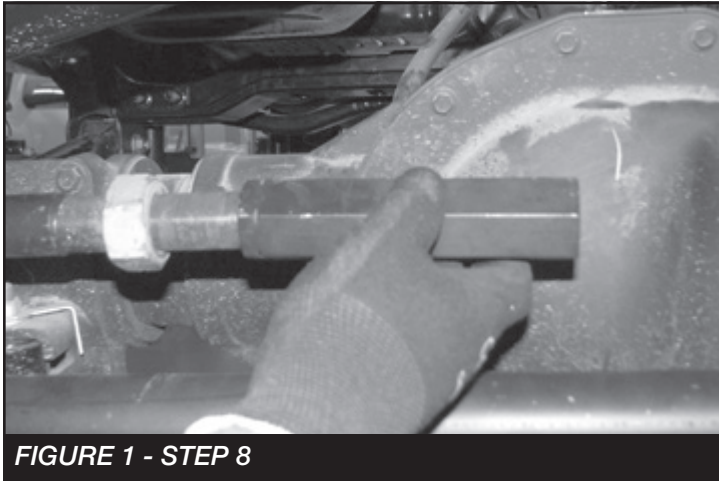

FIGURE 1 - STEP 8
8. Unthread the factory drag link at the adjuster sleeve and remove adjuster sleeve. **SEE FIGURE 1**